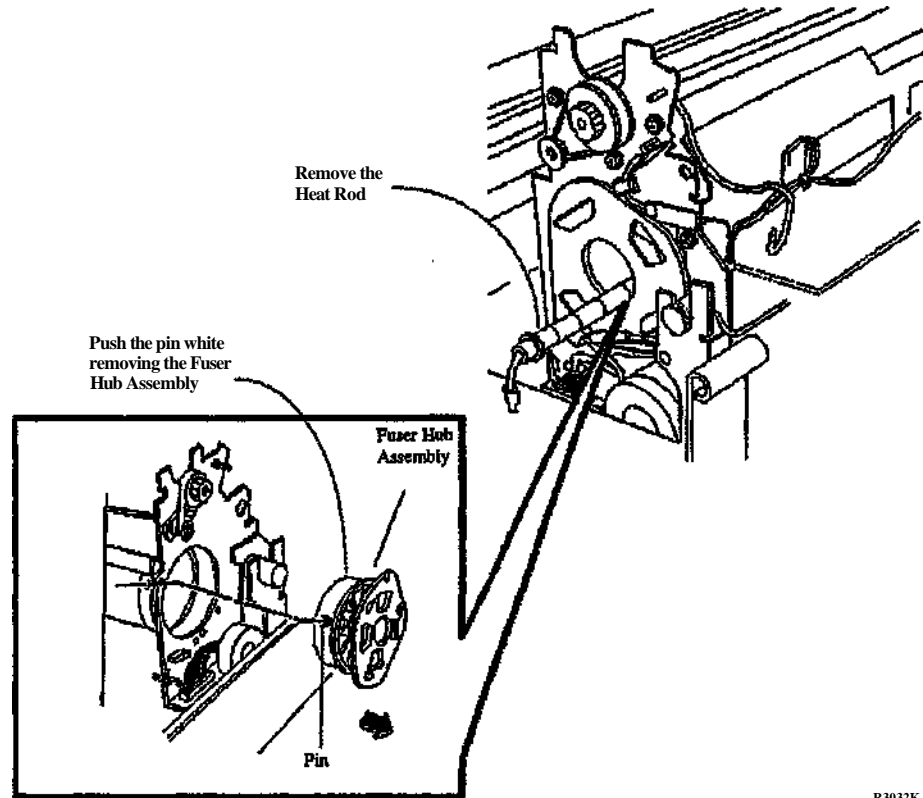

Figure 3. Removing the Heat Rod and Fuser Hub Assembly
5. (Figure 3): Remove the Heat Rod.